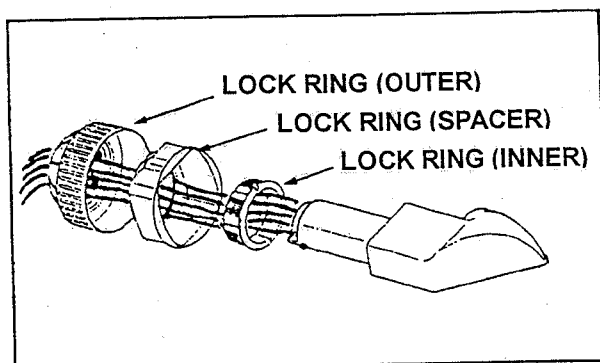

Figure F2
- 5) Shift the outer lock ring, lock ring spacer and inner lock ring to the cable side as shown in Figure F2.